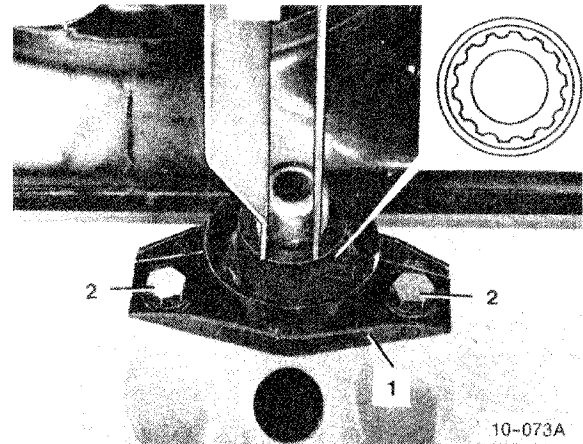

Fig. 5-10. Front engine mount being aligned. Move housing (1) on bolts (2) until rubber core is centered (inset).
- Move the front mount on the body until the rubber core is centered in the mount as shown in Fig. 5-10, then torque the nuts. For 8-valve engines, torque the mount nuts to 52 Nm (38 ft. lb.). For 16-valve engines, torque the nuts to 40 Nm (30 ft. lb.).